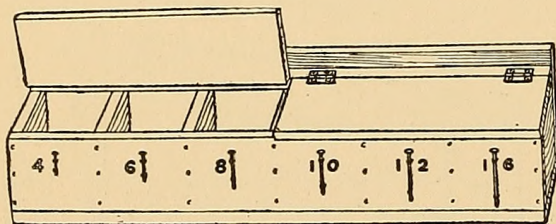

FIG. 47.
unnecessary hunting, and several receptacles for these are shown in Figs. 47 to 52. The
49) 6 inches wide by 6 inches high at the back and 5 inches high at the front. Nail together the front, back, and end pieces, then nail on the bottom and fasten the partitions in place so as to divide the box into six equal spaces. The box may either be screwed to the wall or hung upon hooks. If you screw it, do this before putting on the cover. Cut the hinge-strip (*E*, Fig. 49) 1 inch wide by the length of the box and nail it in place to the partition tops. The cover may be made in one piece, or in two as in Fig. 47; hinge it to the hinge-strip. Mark the sizes of the nails upon the front of the box, and fasten nails of corresponding sizes in front of the receptacles with small staples or bent-over brads to help you to associate the lengths with the size numbers. This box has been planned for *common nails* and to hold sizes ranging from  $1\frac{1}{2}$  inches to  $3\frac{1}{2}$  inches long (4-penny to 16-penny).